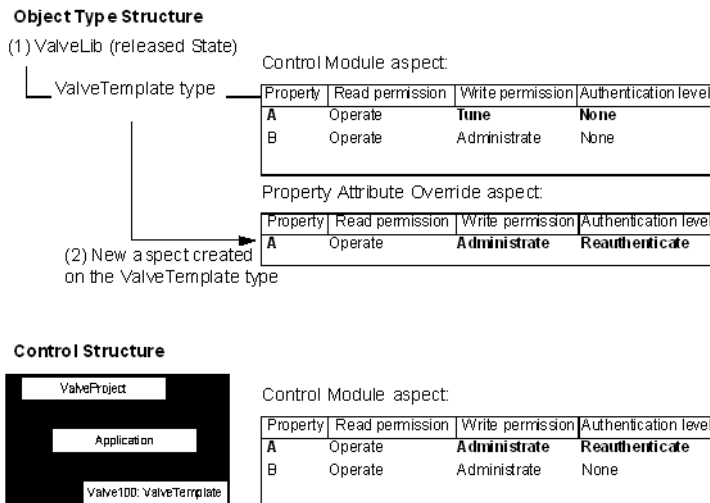
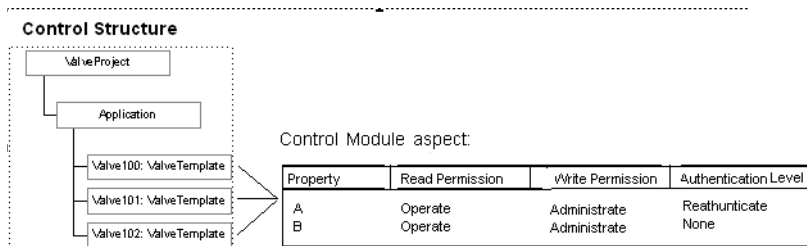

Figure 22. Property Override Attribute on Object Types
Figure 23. Property Override Aspect on Objects
Figure 22 shows a released library (ValveLib) that contains an object type (ValveTemplate).
In order to change the property settings for variable (A) (see Figure 22) you need to create a Property Override aspect and set the new properties for (A).
In the example given in Figure 22 the write permission on property (A) is changed from *Tune* to *Administrate* and the Authenticate level is changed from *None* to *Reauthenticate*. For information about authentication see Critical Operation Authentication Support on page 113.
You can also override property permission settings for objects. Figure 22 showed how the type ValveTemplate had the property (A) changed from None to Reauthenticate, by adding a Property Attribute Override aspect. Valve 100 received the new override setting, but so will also the next object, Valve 101, and the next etc. (they all have the same object type), see Figure 23.